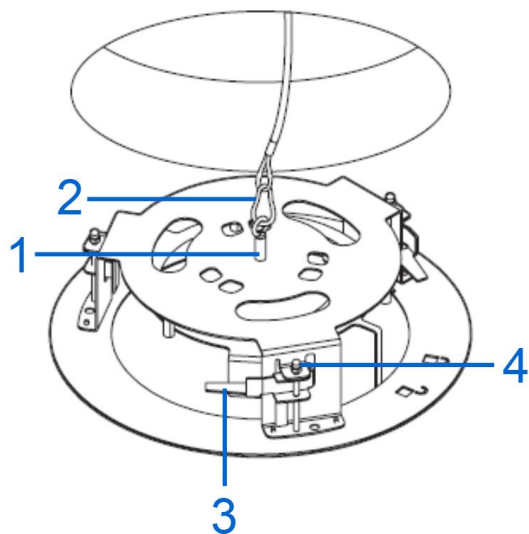

Figure 3
2. Attach one end of the safety lanyard to a secure structure or object in the ceiling and screw in the eye bolt (1) (Figure 3) to the top of the mount.
3. Attach the other end of the safety lanyard (2) (Figure 3) to the eye-bolt on the mount.
4. Pull the 'wings-tabs' (3) (Figure 3) out to tighten the mount against the ceiling. **Note:** You can rotate the screw (4) (Figure 3) to adjust the 'wings-tabs' up or down. **Note:** There are three 'wing-tabs' on the mount.